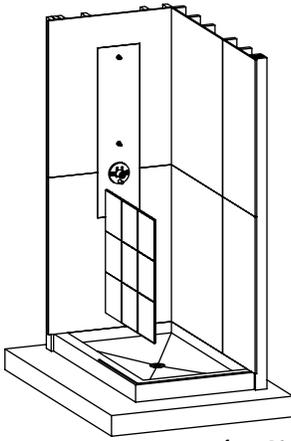

figure 19
1. Dry fit the shower wall panel 1B into position. Use 1/8" spacers between the shower pan and the bottom of the panel (*Fig. 19*). Center the back wall panels so the gaps on both sides are equal. The thickness of the side panels will cover these small gaps.